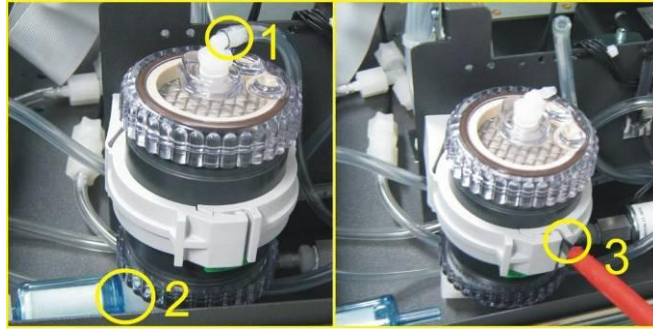

Figure 123 – Zero Scrubber Removal
3. Remove the tubing from the barb fitting on top of the scrubber (refer to Label 1 in Figure 123).
4. Remove the DFU from the fitting below the scrubber by pulling it out (refer to Label 2 in Figure 123).
5. Now the scrubber holder can be opened with a screwdriver (refer to Label 3 in Figure 123).